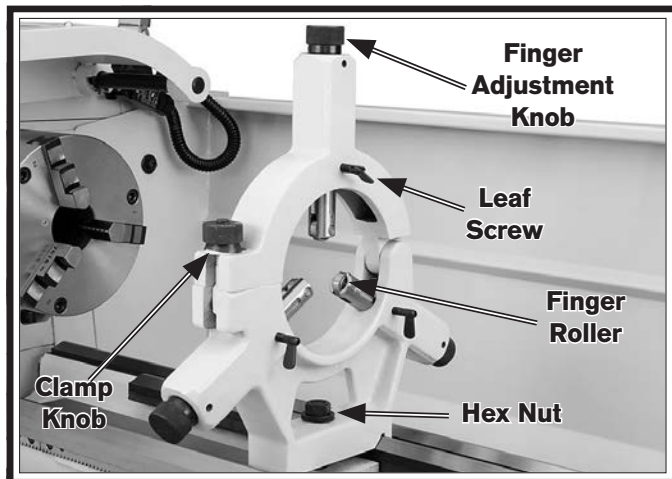

Figure 51. Steady rest components.
Familiarize yourself with the steady rest components shown in **Figure 51** to better understand its operation.
3. Position the steady rest where required to properly support the workpiece, then tighten the hex nut shown in **Figure 51** to secure it in place.